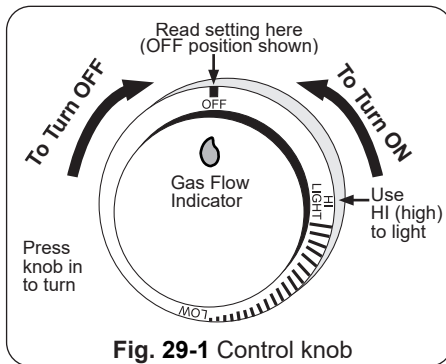

Fig. 29-1 Control knob
**For your convenience and safety, when the control knob is turned to the on position, the gas flow indicator will change from blue to red. (Red indicates gas flow.) See Fig. 29-1.**